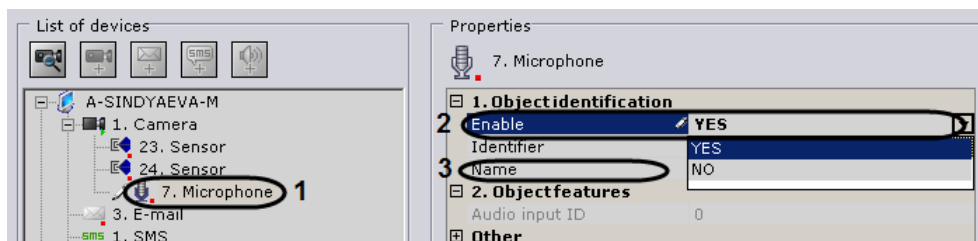

Fig. 6.3—12 A Microphone object
- Select the microphone object in the objects tree (Fig. 6.3—12, 1).
- Enable the microphone by selecting **Yes** in the **Enable** field (see Fig. 6.3—12, 2).
- Enter the name of the microphone into the **Name** field (see Fig. 6.3—12, 3).